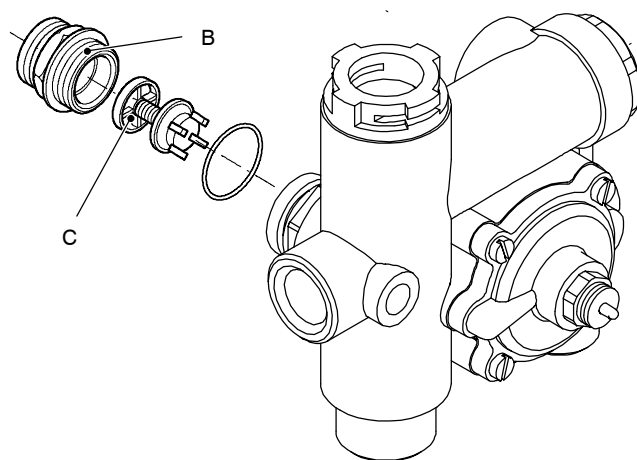

Fig. 62
- 4 Unscrew the connector B and remove the by-pass valve C (Fig. 62).
- 5 Reassemble the by-pass valve as illustrated in Fig. 62 reversing the order of removal.